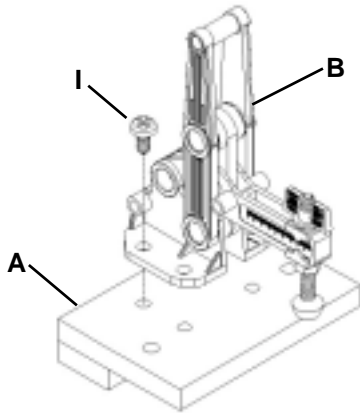

Figure 1
1. Attach the toggle clamps (B) to the clamp-block (A) using the 1/4-20 X 1/2 pan head screws (I) as shown in Figure 1.